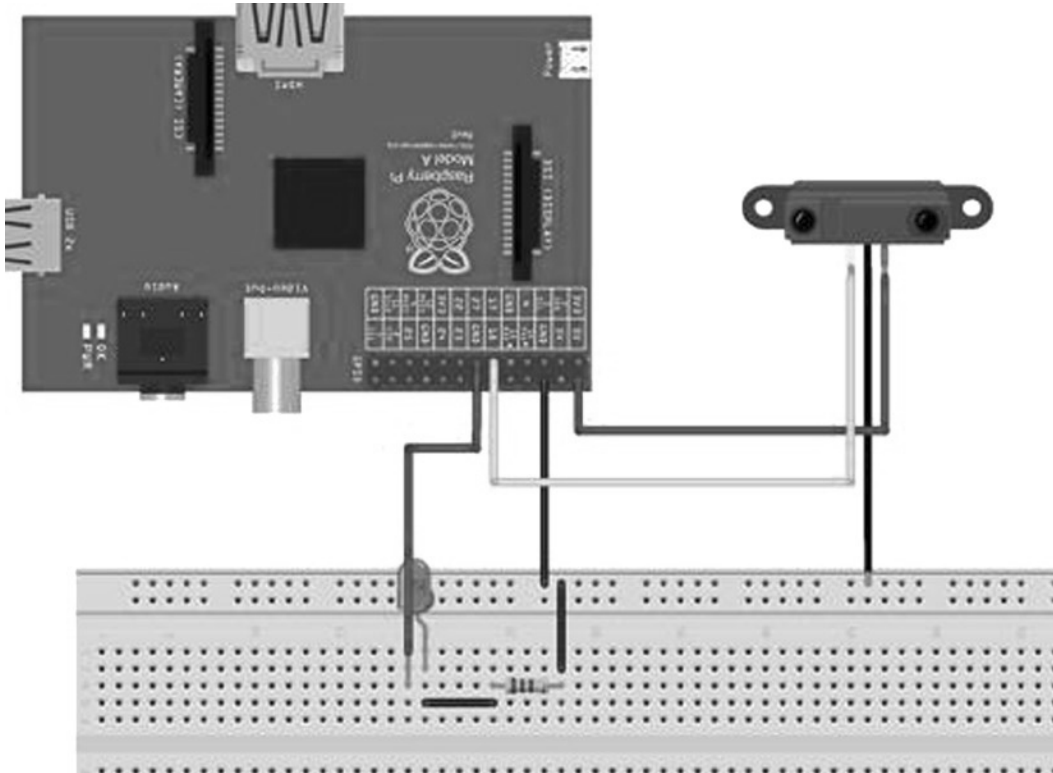

Figure 9-9. IR sensor and LED test setup
That's it for the test code! To test the code and the sensor setup, first connect the (+) pin on the sensor to pin #2 on the Pi. Connect the OUT pin to pin #11 on the Pi. Connect the (–) pin to a common ground line on your breadboard. Finally, connect pin #13 on the Pi to the positive leg of your LED, and connect the negative leg of the LED (through a resistor) to the common ground line. You should end up with something like the configuration you see in Figure 9-9.
■ **Note** The image in Figure 9-9 was created with Fritzing (<http://www.fritzing.org>), a great open-source breadboarding/design tool. It's cross-platform, very easy to use and learn, and highly recommended.